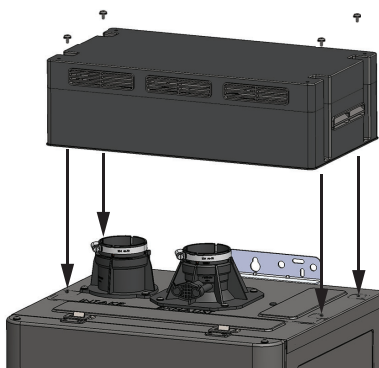

Figure 2 - Outdoor Vent Cap secure with screws.
- 4 Orient the outdoor vent cap as shown in Figure 2.
- 5 Secure the Outdoor Vent Cap to the water heater at each corner with the screws removed in Step 3. See Figure 2.